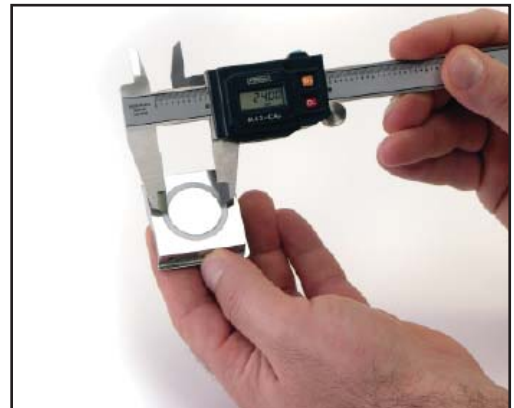

Figure 8: Measuring Diameter of Measurement Center Plate
Exact fixture dimensions can be obtained during fixture cleaning using the measurement procedures described below. When the fixture is disassembled, and after it is cleaned, measure the concentric center plate with a micrometer as shown in Figure 8, at right.
1. Measure center plate diameter (Figure 8): 2.4 cm